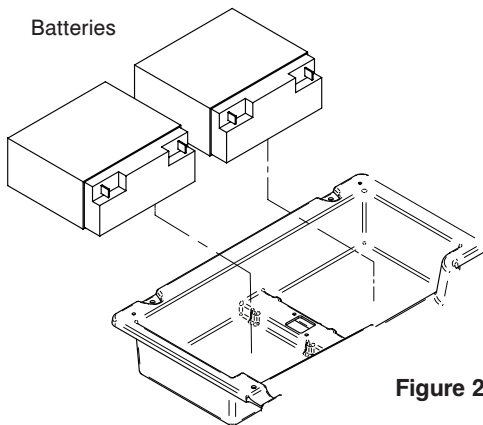

Figure 2
6. Unplug the bed from the wall outlet and turn battery switch "OFF" (0). The bed should now have no power.
8. Lift up on both batteries and stand them upright (reference Figure 2 above).